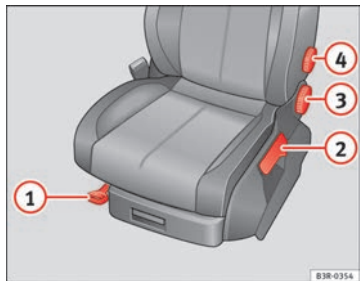

Fig. 105 Adjuster controls on driver seat
- Lift the lever ① ⇒ Fig. 105 and move the seat to the desired position.
- Then release the lever ① and move the seat further until the catch engages.
- Pull the lever ② ⇒ Fig. 105 up repeatedly until the seat is in the desired position.
- Turn the adjuster wheel  ⇒ Fig. 105 to set the angle of the backrest as required.
- Do not exert any pressure on the backrest and turn adjuster wheel  ⇒ Fig. 105 to adjust lumbar support.